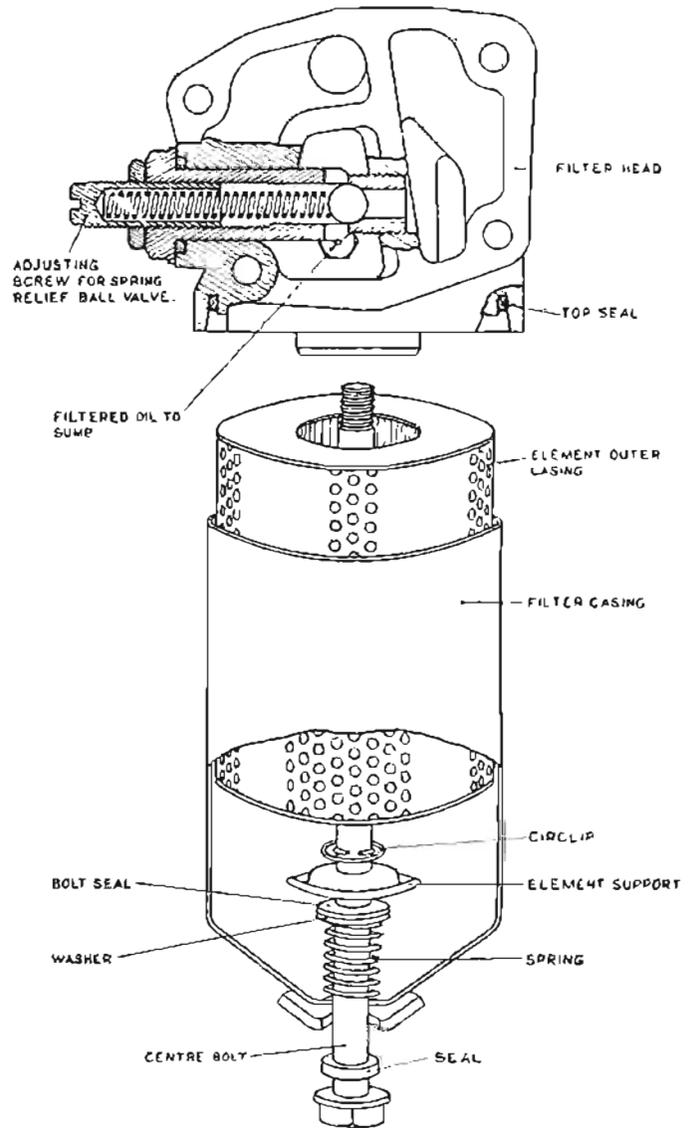

Fig. 29
18. THE "PURQLATOR MICRONIC" OIL FILTER—TYPE 17F. 5102 (Fig. 29)